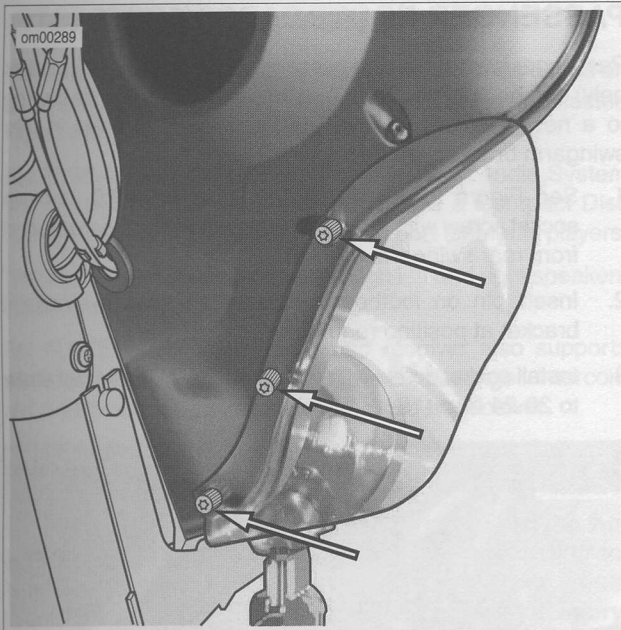

Figure 18. Air Deflector Thumb Screws
1. See Figure 18. To detach the deflectors, remove the three thumb screws.